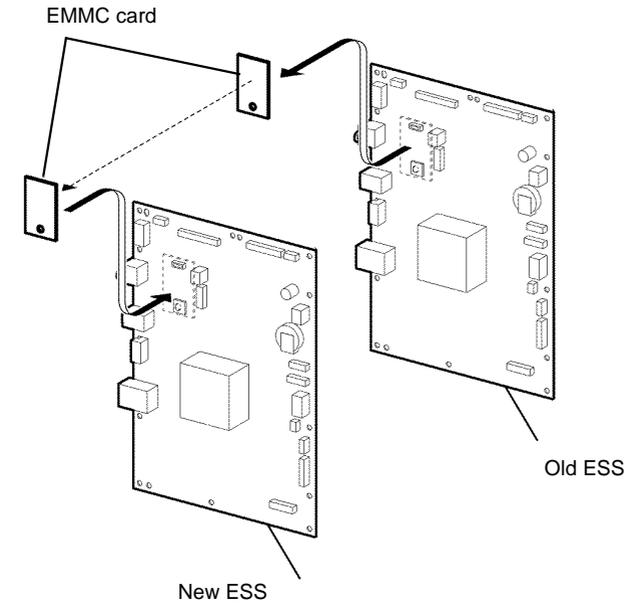

Figure 7 EMMC card
2. If a new ESS PWB is to be installed, remove the EMMC card from the old ESS PWB, then install it onto the new ESS PWB, Figure 7.